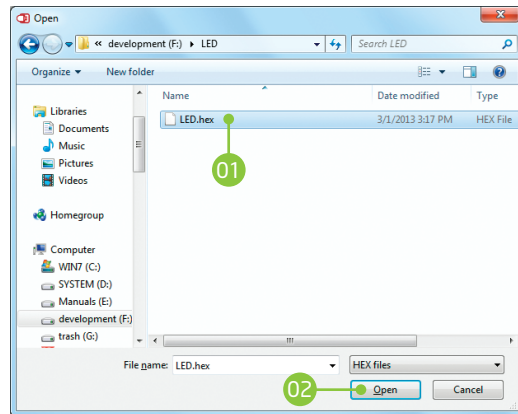

Figure 3-4: Selecting HEX
- 01 Click the **Browse for HEX** button and from a pop-up window (**Figure 3.4**) choose the .HEX file that will be uploaded to MCU memory.